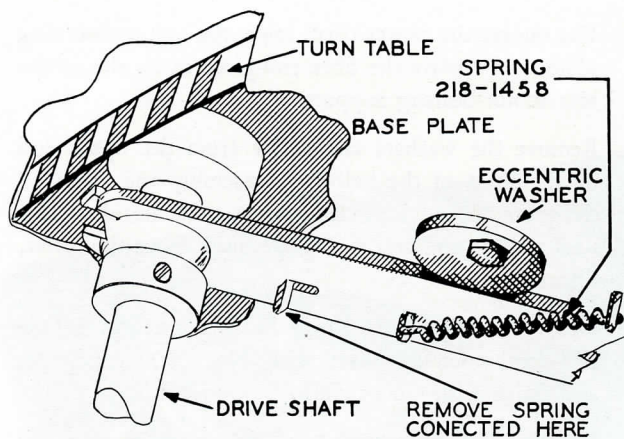
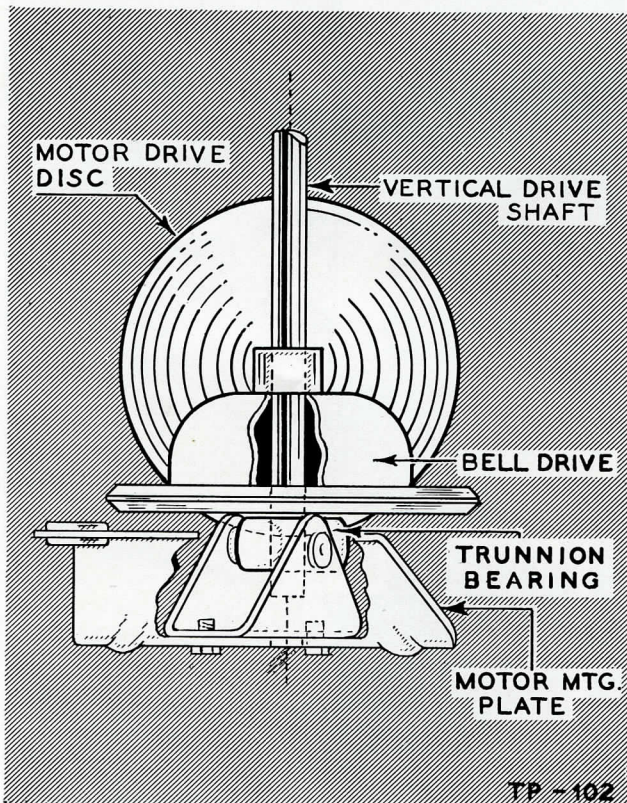

FIGURE 11. UPPER BEARING SUPPORT
FIGURE 21. CORRECT POSITION OF BELL-DRIVE SHAFT—END VIEW
16. Place two drops of oil on the back rivet on the lip of the upper bearing support. If there are two springs on the upper bearing support, remove and discard the one nearest the bearing, figure 11. Check to see that the upper bearing support moves freely.
35. Remove the neon-lamp socket, set the speed ADJUST knob to the SLOW position, and while the motor is running, loosen the screw holding the eccentric washer, figure 11, which determines the position of the upper bearing support. Turn the washer until the shaft of the bell-drive assembly is approximately vertical, as viewed from the front and end; tighten the screw. See figure 21.